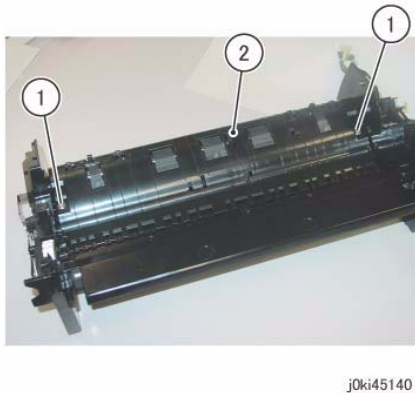

Figure 3 Remove the Invert Chute
13. Remove the Invert Chute. (Figure 3)